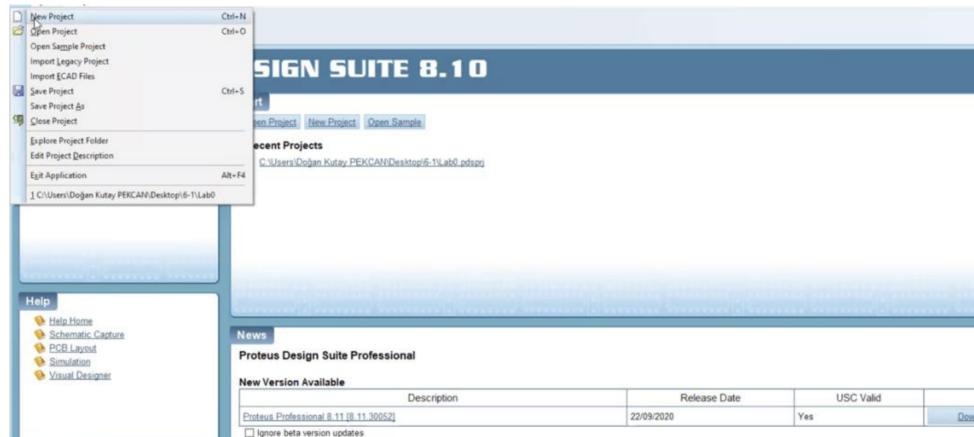

Figure 1: Create a new project.
1. Create a new project as shown in Figure 1.